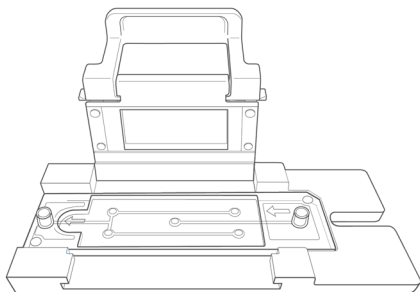

Fig. 22. Manifold loaded into the Celselect Slide Station.
1. Place the Slide Manifold onto the Slide Station using the two positioning pins. The arrows on the manifold should point to the left when the Slide Station is oriented horizontally with the clamp on the opposite side to the user (Figure 22).